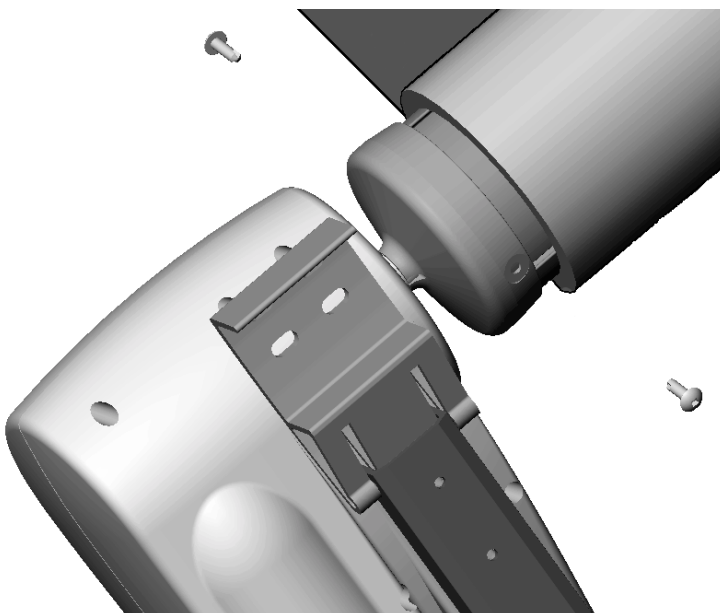

figure 3
D. Secure the end cap to the roller assembly using two, #10 square-drive screws (see **figure 3**).